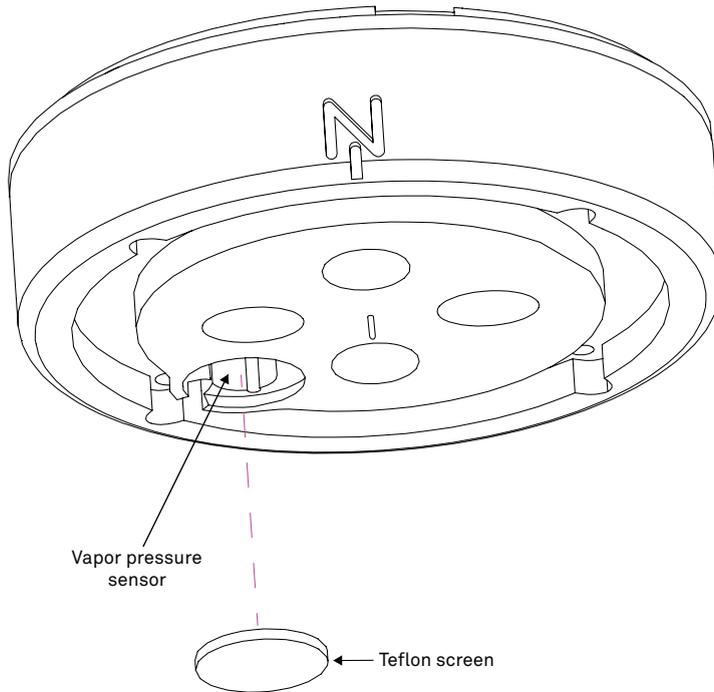

Figure 34 Teflon screen
- d. Observe the Teflon screen (Figure 34)